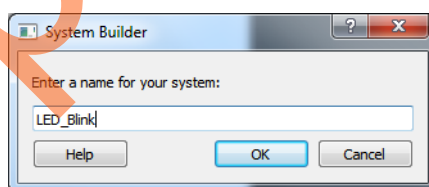

Figure 6 • System Builder Dialog Box
8. Enter a name for your system as **LED_Blink** and click **OK**, as shown in Figure 6.